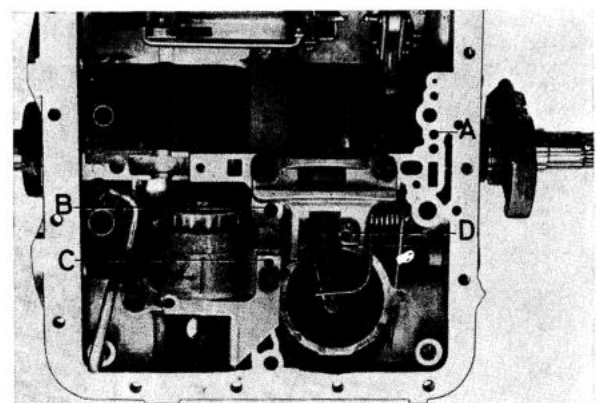

Fig. 4-74. Functioning test with compressed air
Apply air pressure to the passage (5) of the transmission case rear wall, see Fig. 4-74. Listen for a thump, indicating that the clutch is functioning. On the bench, also verify by rotating the input shaft with air pressure applied.